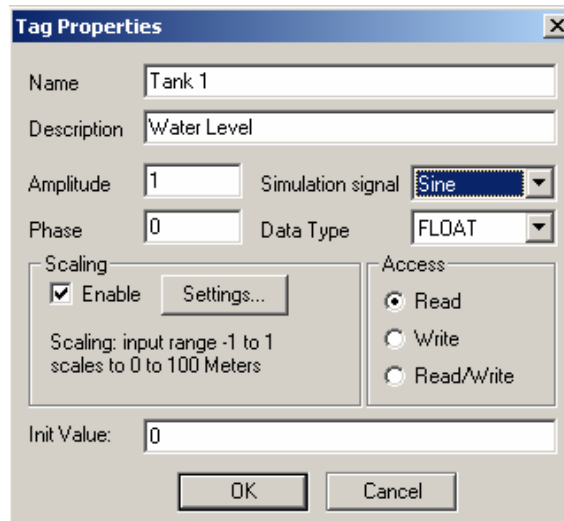

Figure 4.12. Base Tag
2. This opens the **Tag Properties** dialog box, as shown in **Figure 4.12**. Change the following parameters:
Your tag should appear as shown in **Figure 4.12**. This is simply a "base tag," i.e., one that you will "multiply" to produce several tags. Click **OK**.